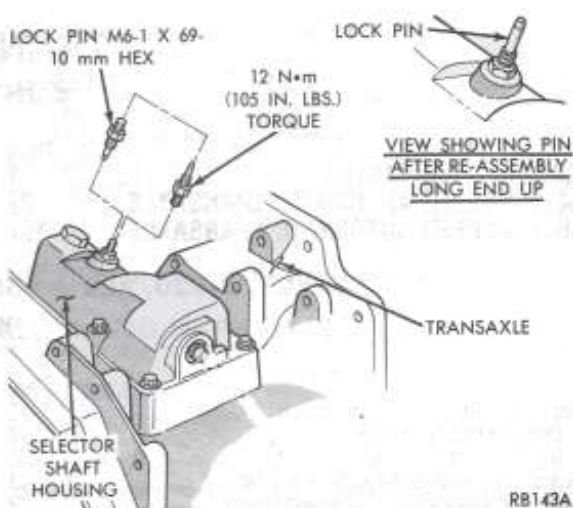

Fig. 1—Manual Transaxle Pinned in the 1-2 Neutral Position to Adjust Gearshift Linkage
(1) Working over the left front fender, remove the lock pin from the transaxle selector shaft housing (Fig. 1).
(2) Reverse the lock pin (so long end is down) and insert lock pin into same threaded hole while pushing the selector shaft into the selector housing. A hole in the selector shaft will align with the lock pin, allowing the lock pin to be screwed into the housing. This operation locks the selector shaft in the 1-2 neutral position.
(3) Raise vehicle on hoist.
(4) Loosen the clamp bolt that secures the gearshift tube to the gearshift connector.
(5) Check to see that gearshift connector slides and turns freely in gearshift tube.
(6) Position the shifter mechanism connector assembly so that the isolator is contacting the upstanding flange and the rib on the isolator is aligned fore and aft with the hole in the block-
(7) Lower vehicle to floor.
(8) Remove lock pin from selector shaft housing and reinstall lock pin (so long end is up) in selector shaft housing (Fig. 1). Tighten lock pin to 12 N·m (105 in. lbs.).
(9) Check for shift into first and reverse. Check for blockout into reverse.
(10) Gearshift linkage is now properly adjusted.